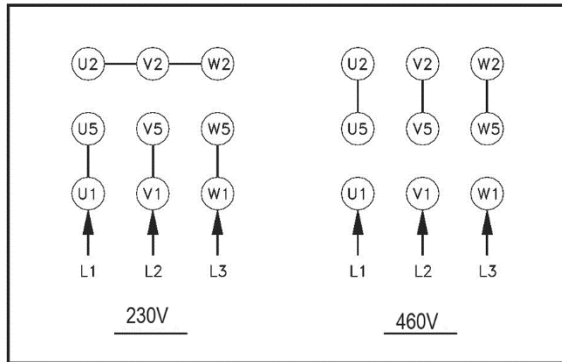

Figure 6-1: main motor wiring
1. Open main motor junction box cover, and change leads based on wiring diagram inside cover. This diagram is also shown in Figure 6-1. (Note: In case of discrepancy, diagram inside junction box cover takes precedence.) Reinstall cover.